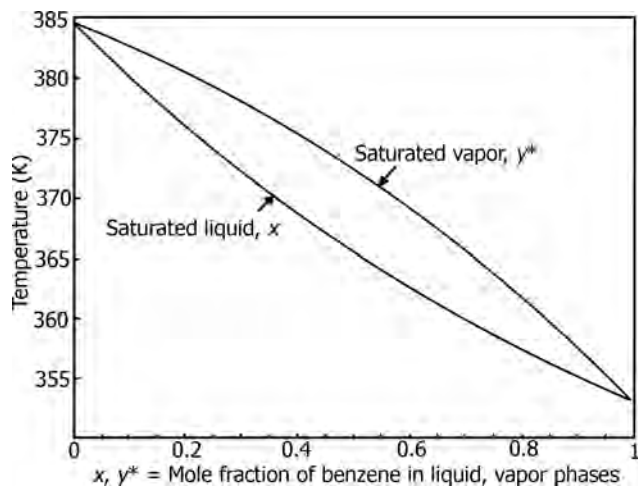

FIGURE 17.8 T - x - y diagram for benzene–toluene system at 1 atm.
- Figures 17.8 and 17.9 illustrate such relationships.